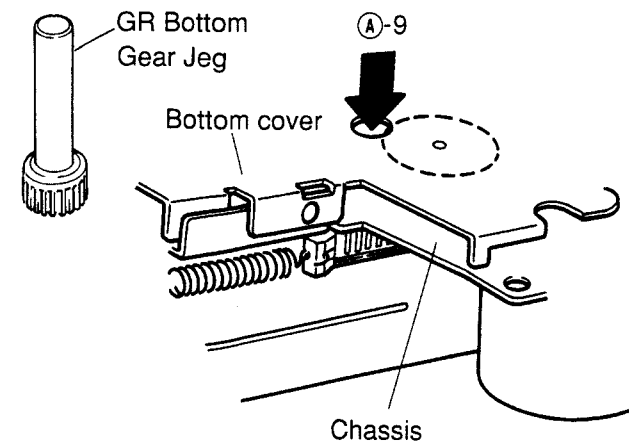

Figure 4
- (12) Since the hooks marked ⑤-8 will be lifted slightly as shown in Figure 4, insert the jig through the hole ⑤-9, and fix it turning the jig slightly in the direction ⑤-11.
(Refer to Figures 4 and 5.)
- (14) Insert the jig into the hole ⑤-9 as shown in Figure 4 and rotate the eject solenoid counterclockwise about 20 times, pulling it in the direction ⑤-10 with the finger. Then the eject operation is completed. Instead of operation (14), the eject operation can be performed by mounting the mechanism to the product. (Refer to Figures 4 and 5.)